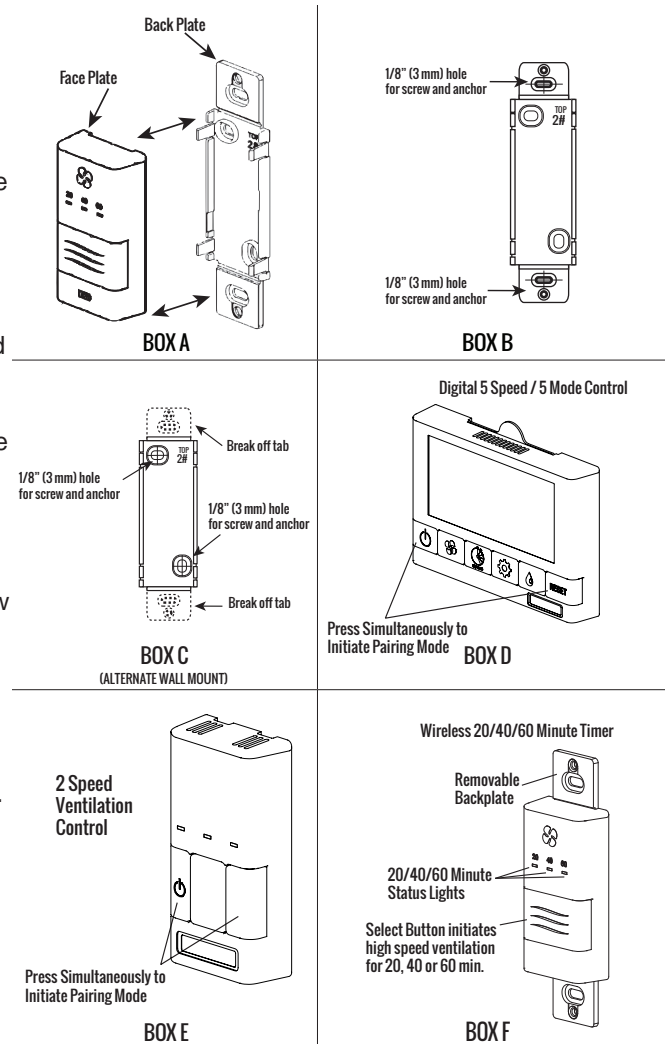

Figure 25. Installation of Timer
2. **Pairing with GDXPL02 or GDXPL03 Deluxe Control:** Press the left and right buttons simultaneously on the control  and RESET buttons. The screen will go blank and the wireless symbol  appear flashing on the bottom right of the display. This indicates that the control is now in pairing mode (Figure 25, Box D).
3. **Pairing with GBC02, GBC03, or GBC04 Basic Controls:** Press the left and right buttons simultaneously on the control buttons. The bottom row of three LEDs will begin flashing. This indicates that the main control is now in pairing mode (Figure 25, Box E).
1. Separate the face plate from the back plate by firmly pulling apart (Figure 25, Box A).
2. For mounting the control without a decorative plate, break off top and bottom tabs and refer to Figure 25, Box C for mounting.
3. Place the back plate of the control in the desired location on the wall and pencil mark the top and bottom screw holes (Figure 25, Boxes B or C). Drill two 1/8" (3 mm) holes.
5. Attach the face plate to the back plate (Figure 25, Box F).